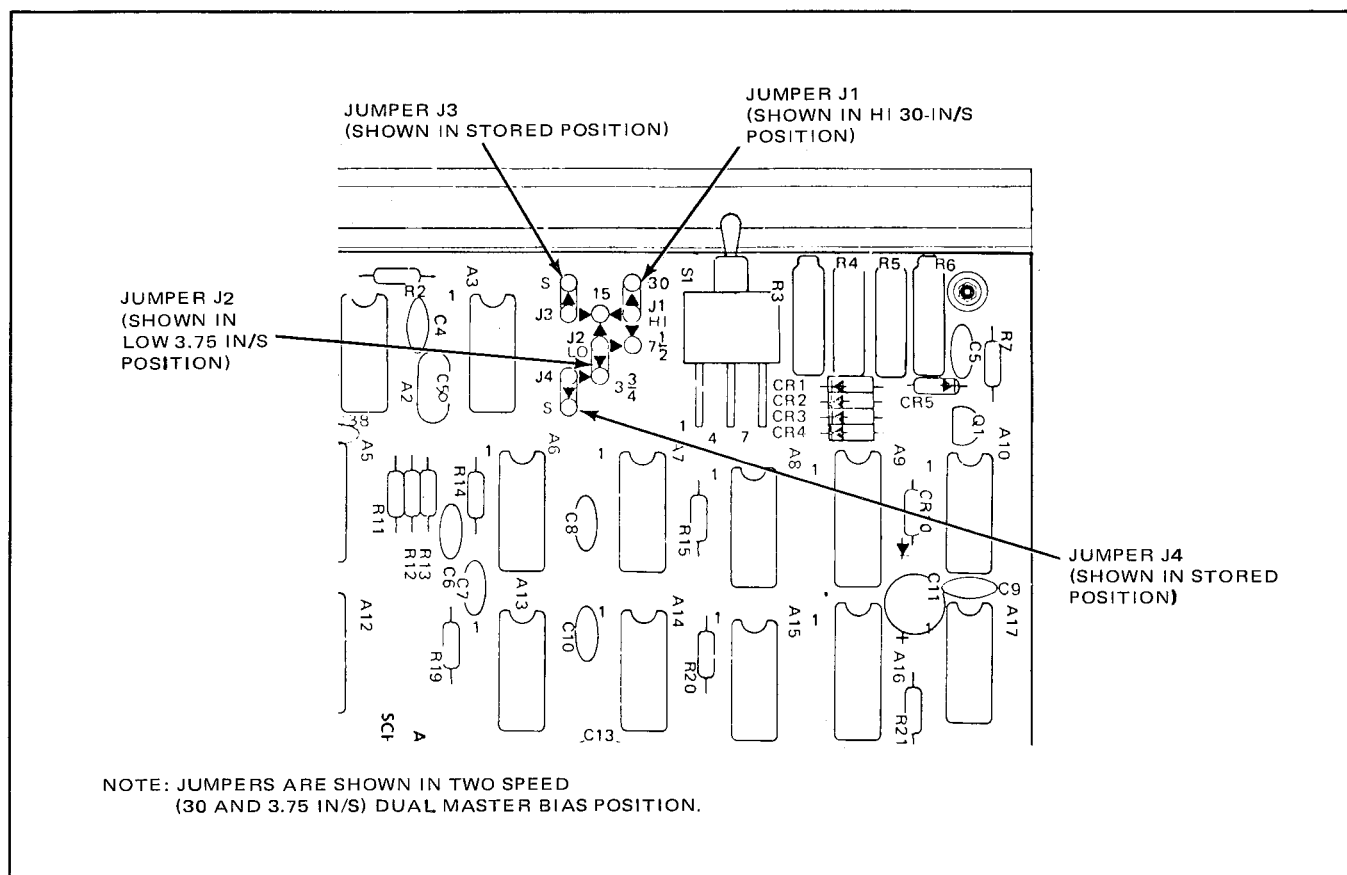

Figure 5-6. Speed/Bias Selection Jumpers, Audio Control PWA No. 5
3. Position HI speed jumper J1 to the desired high speed: 30, 15, or 7.5 in/s position (Figure 5-6).
3. Position jumper J1 to the 30-in/s position (Figure 5-6).